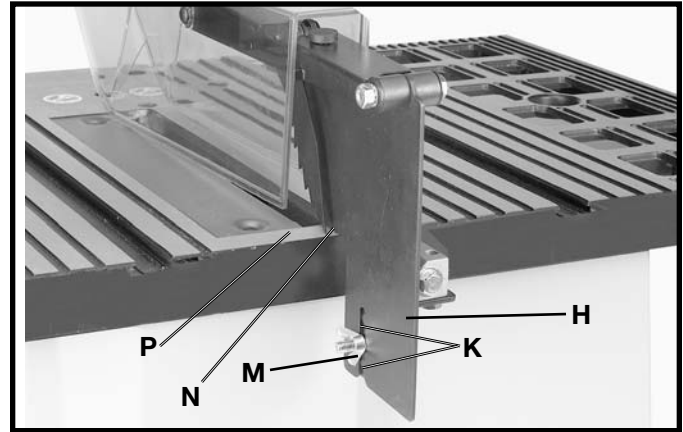

Fig. 12
9. Fasten splitter (H) Fig. 12, to splitter support bracket using flat washer, external tooth lockwasher and wing nut (M). **NOTE:** Before tightening wing nut (M) make certain there is at least a 1/8" gap between the bottom edge of splitter (N) and top surface of table (P) and that protrusions (K) Fig. 12, are inside the slot of splitter assembly (H).